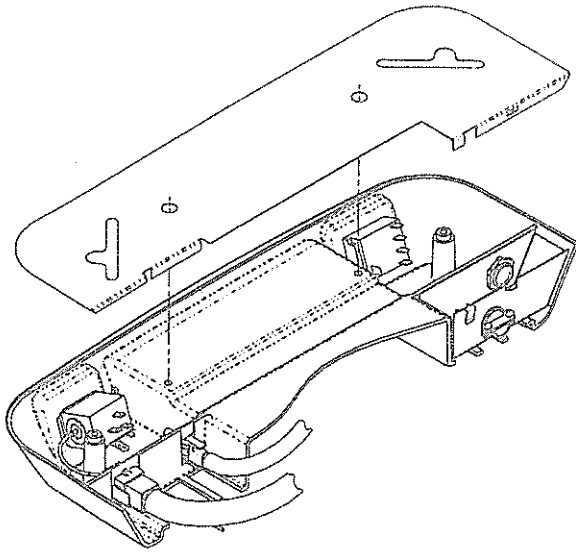

FIGURE 8
- E. Plug the roof top air conditioner electrical conduit into the 9 position receptacle located in the thermostat side of the ceiling assembly. If installing an Electric Heating Element, plug the heater cord into the 2 position receptacle (See Figure 8).
- H. Place the metal control box shield over the thermostat, switch and field wiring boxes. Make certain that all wires are pushed into the control boxes or laying in the wireway between the thermostat and switch boxes and will not be pinched by the control box shield. Control box shield is properly installed when the two holes in the shield are aligned with the two screw holes in the ceiling assembly chute (See Figure 8).
- J. The ceiling assembly shroud is curved to contour to a crowned ceiling. If installation is to a flat ceiling and gaps are present on the sides of the shroud, insert the four optional 3/4 inch screws (provided) through the mounting posts and secure them to the mounting frame above (See Figure 8, 9, & 10 for screw locations).